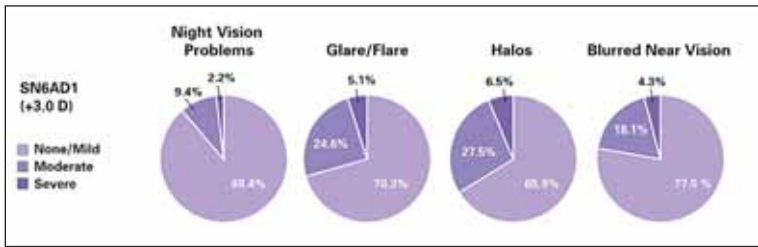
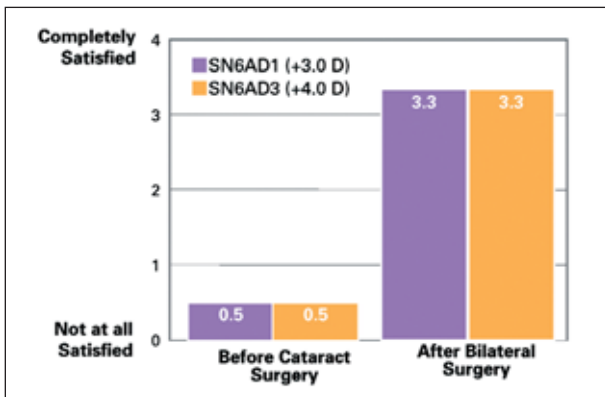

Figure 4. Visual disturbances 6 months after second-eye implantation of the AcrySof IQ ReSTOR IOL +3.0 D (SN6AD1).
Figure 5. Patients' overall postoperative satisfaction without glasses with both models of the AcrySof IQ ReSTOR IOL.
**Figure 5.** The WaveLight FS200 femtosecond laser's Advanced Suction Technology. First, a disposable plastic ring (A) makes contact with the sclera. After the surgeon applies suction, the cone that is attached to the laser's bridge (B) is suctioned to the scleral suction ring before the surgeon begins ablation.
symptoms 6 months after bilateral implantation (Figure 4). Both the +3.0 D and the +4.0 D models have demonstrated a high rate of patient satisfaction (Figure 5).